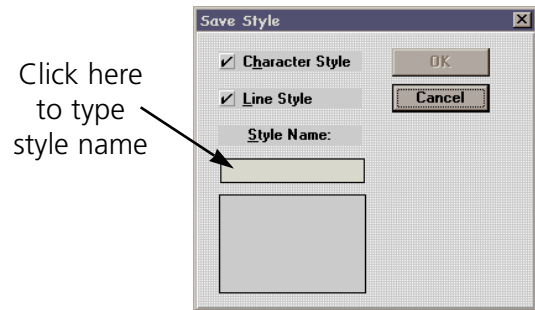

Figure 5-23
2. When the Save Style dialog box displays (Figure 5-23), click one or both: Character Style to save the alphabet and its parameters, Line Style to save the line type and its parameters, (check marks appear next to selected choices).